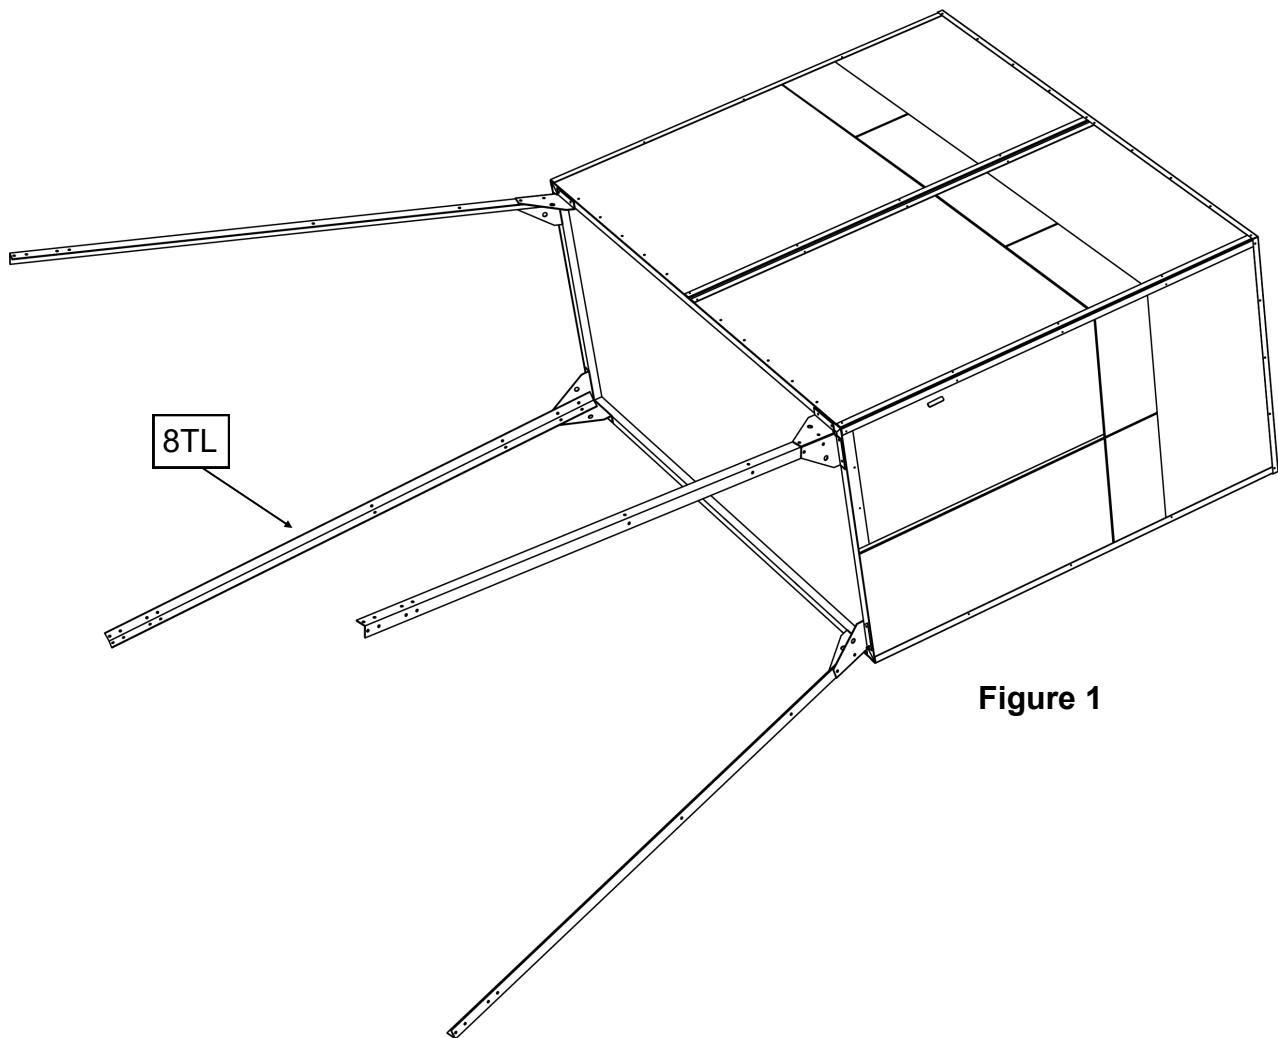

Figure 1
Step 1: Attach the **(8TL) Legs** to the Blind Assembly. (*Figure 1*)